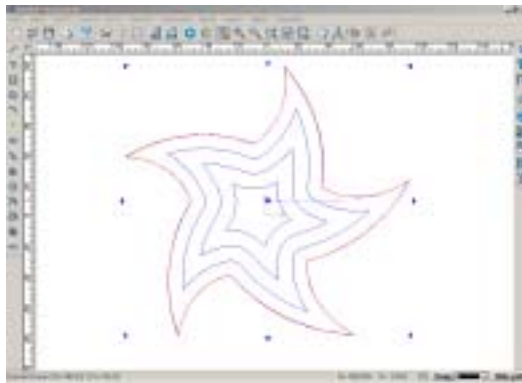

Fig. 10-47
3. Select a conical tool with a diameter of 0.3, height of 10, angle of 45 degrees, material thickness of 10, machining depth of 39.19, layer depth of 10mm, anticlockwise machining, and the effect is shown in Fig. 10-47. Machining depth, layer and angle vary according to the tools selected.